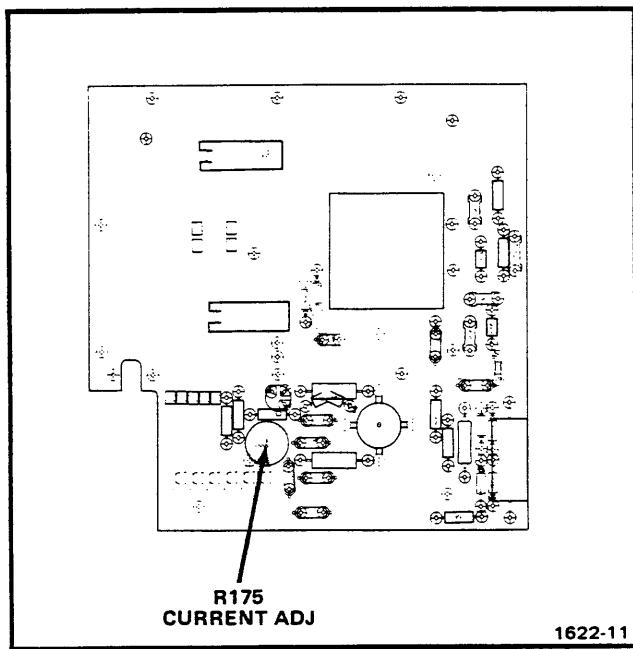
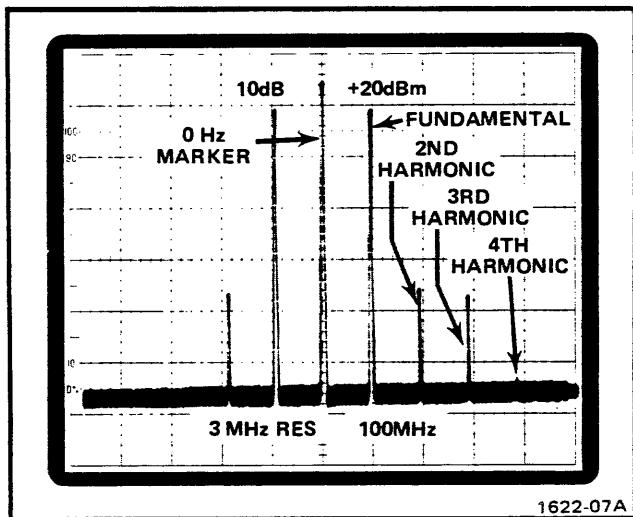

Fig. 3-4. Location of R175 Current Set adjustment.
Fig. 3-5. Display of 100 MHz signal and harmonics.
c. Position the 0 Hz marker display to the center graticule line with the spectrum analyzer position control. See Fig. 3-5 for reference.
d. Position the fundamental to the top graticule line with the spectrum analyzer vertical position control. See Fig. 3-5 for reference.
e. Slowly adjust the SG 503 OUTPUT AMPLITUDE control over the 0.5 volt to 5.5 volt range in both directions and check for at least 3.5 division vertical separation between the top of the fundamental and the top of the second harmonic display (35 decibels down). See Fig. 3-5 for harmonic reference.
f. Adjust—Current Adj. R175, for at least 3.5 division vertical separation between the top of the fundamental and the top of the second harmonic display. Repeat part e of this step. See Fig. 3-4 for adjustment location, and Fig. 3-5 for reference.
- c. Position the fundamental to the top graticule line with the spectrum analyzer vertical position control. See Fig. 3-5 for reference.